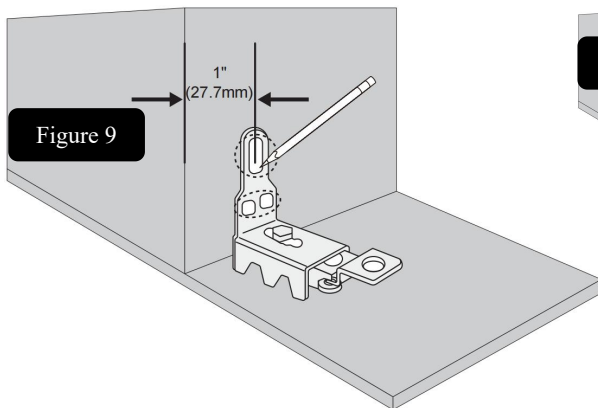

Figure 9
- Step 1:** Place lower jamb pivot right under upper pivot, tight to the floor. The distance from lower jamb pivot to the edge of the jamb should be 1" (27.7mm) as shown (Figure 9). Use a pencil to mark the 3 places where holes are to be drilled as shown (Figure 9).